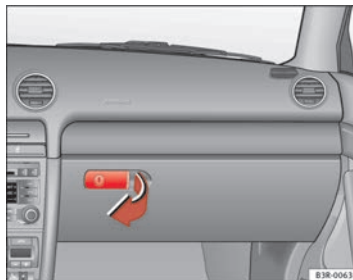

Fig. 138 Glove compartment
- Pull the handle on the lid in the direction indicated (arrow) ⇒ **fig. 138** and open the lid.